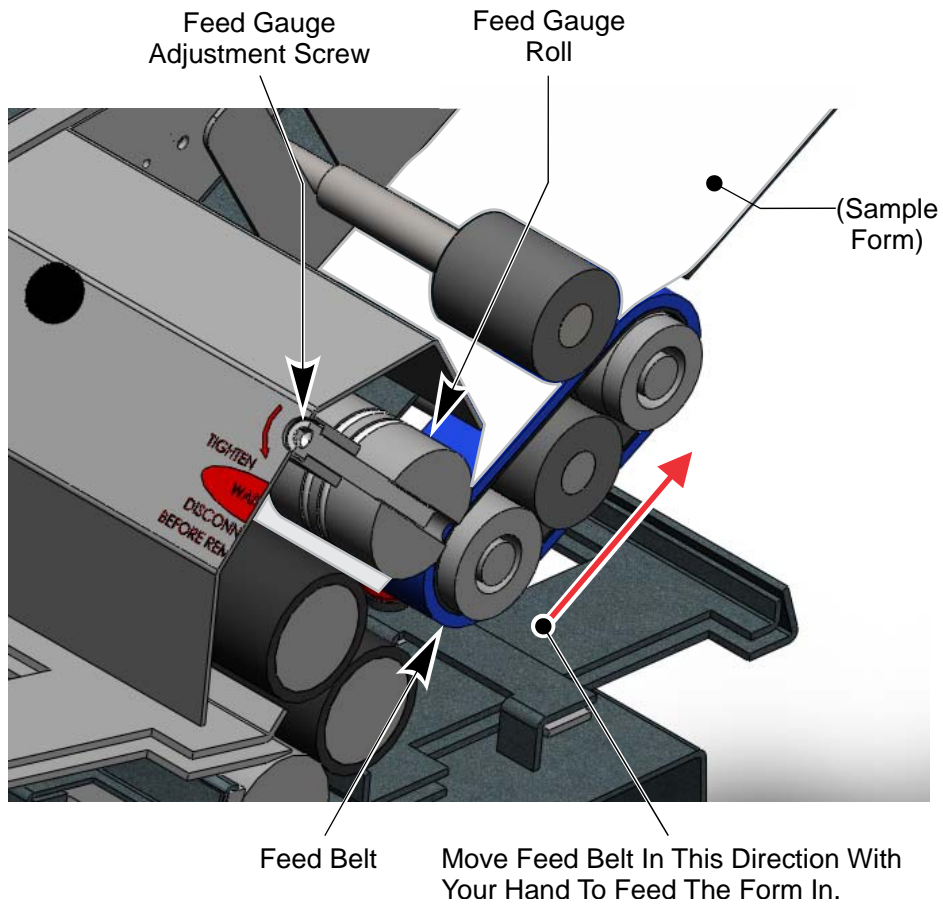

Figure 12: Feed Gauge Cross Section View
To properly set the **Feed Gauge System** [see Figure 12]:
1. Turn the **Feed Gauge Adjustment Screw** [see Figure 12] ¼ turn counter-clockwise.